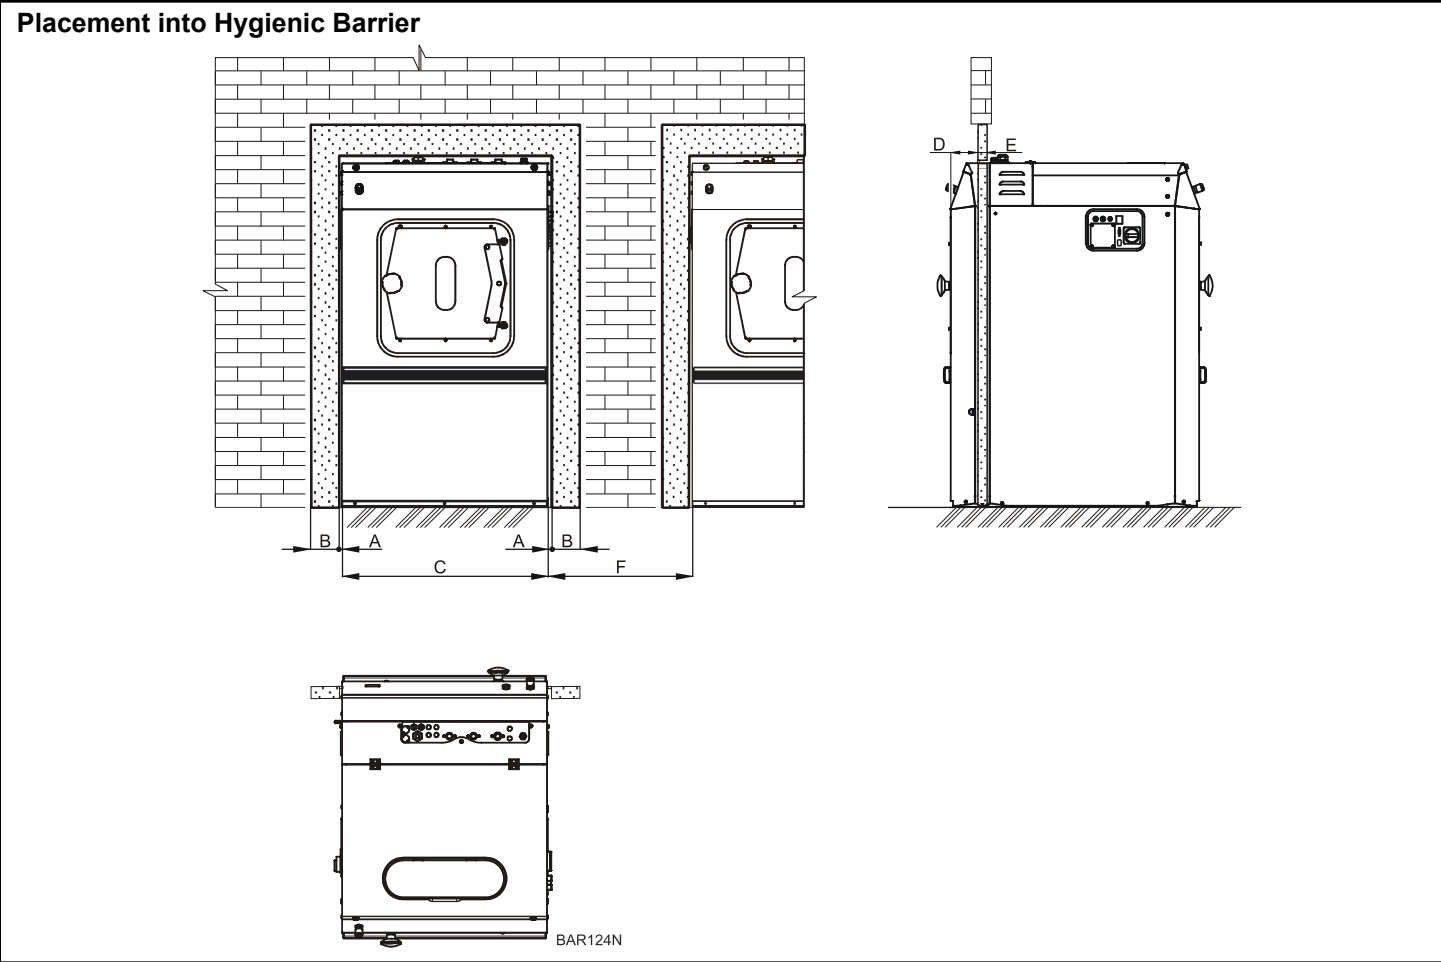

Figure 10
5. Place the machine on its final position. Refer to *Figure 10* and *Figure 11*.